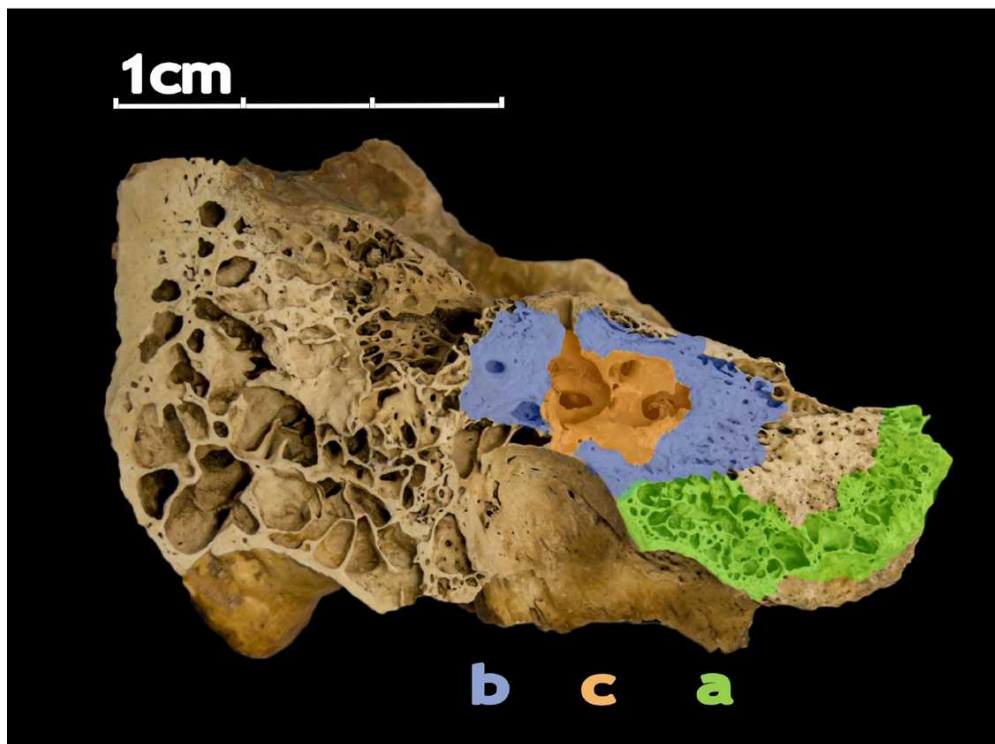

Figure 2. Dense parts around cochlea (**b & c**). Part **c** provides higher endogenous aDNA yields than part **b** and **a**. (Pinhasi et al. 2015).
- 5.1 Familiarize yourself with the anatomy of the petrous bone (e.g., Pinhasi et al. 2015). Locate the dense parts around the cochlea (b & c) as shown below in Figure 2.
Ideally you will target area c (orange) shown in Figure 2, which is located roughly halfway between the jugular fossa (bottom) and the petrous crest (top).